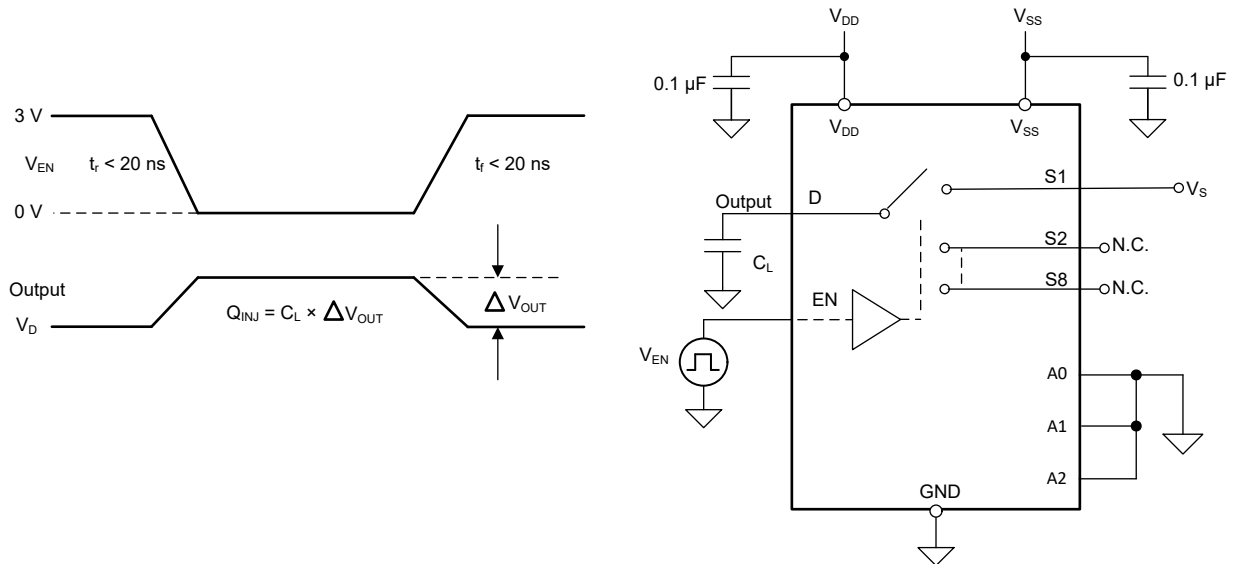

Figure 8-9. Charge-Injection Measurement Setup
The TMUX7208 and TMUX7209 have a transmission-gate topology. Any mismatch in capacitance between the NMOS and PMOS transistors results in a charge injected into the drain or source during the falling or rising edge of the gate signal. The amount of charge injected into the source or drain of the device is known as charge injection, and is denoted by the symbol  $Q_{INJ}$ . Figure 8-9 shows the setup used to measure charge injection from source (Sx) to drain (D).